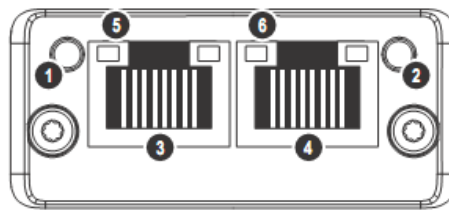

Figure 2.7: Description of the indication LEDs of the PROFINET module
PROFINET IO defines two LEDs for status indication: one for the communication module (MS) and another for the network (NS). Figure 2.7 describes the indication LEDs.